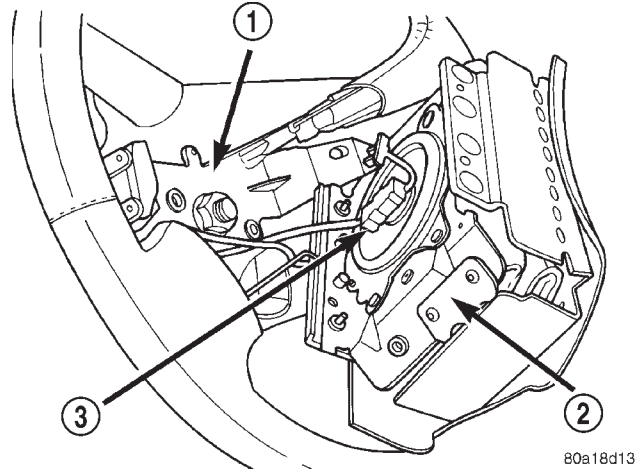

Fig. 13 Airbag Module Electrical Lead Connector
(14) Disconnect the electrical connector (Fig. 13) from the back of the airbag module. Connector is removed by pulling it straight out of the airbag module. **Do not twist the connector when removing it from the airbag.**